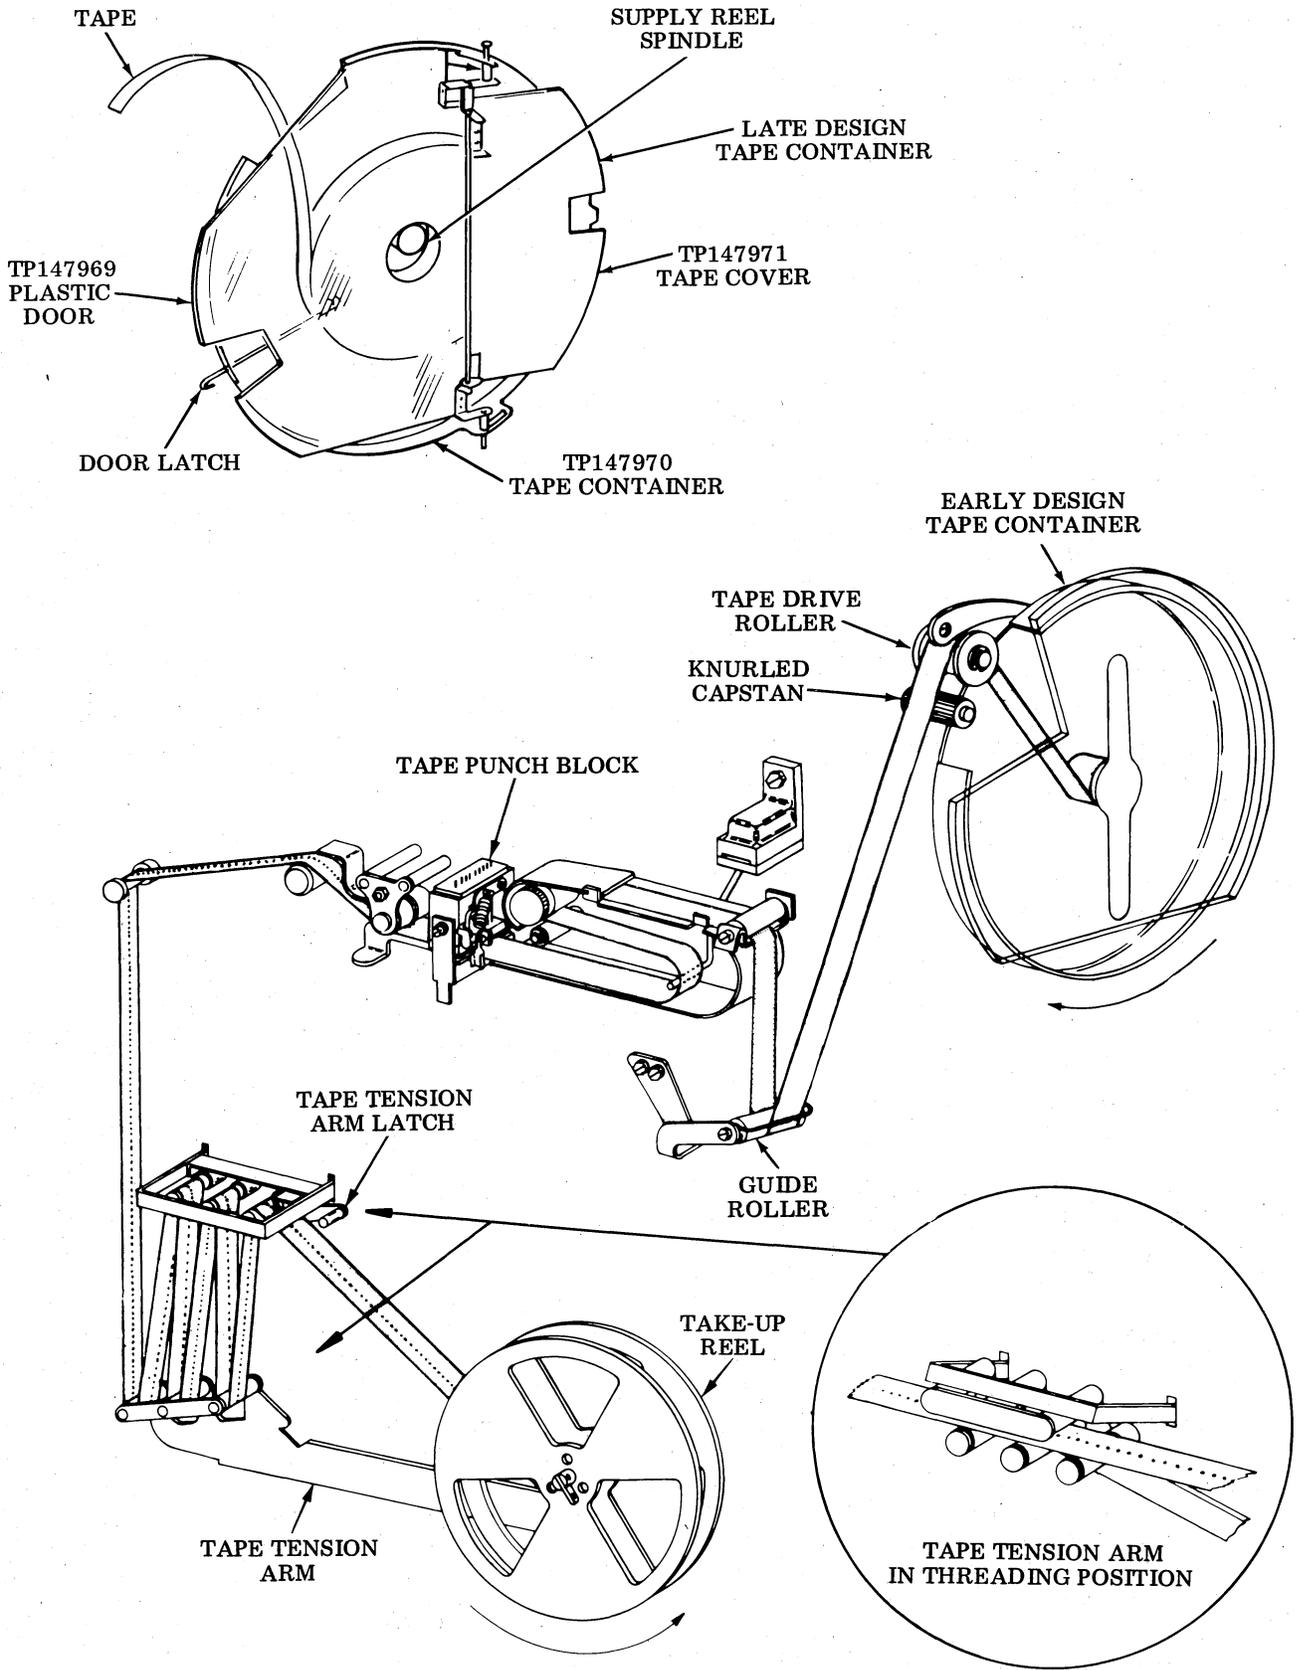

Figure 5 - Tape Path
- (1) Withdraw the punch mounting panel to gain access to the tape supply container.
- (2) Place the tape supply reel on the fixed supply reel spindle (Figure 5) so that it unwinds in a clockwise direction.
- (3) Check position of the tape container door for the proper tape roll width as shown in Adjustment Section 582-102-720.
- (4) Close the mounting panel and remove the transparent tape punch cover by lifting the cover slightly and pulling forward.
4.04 The tape take-up reel is driven by a motor and reduction gear assembly mounted on the rear of the drawer panel. A mercury switch on the tape tension arm (Figure 5) controls the take-up spool motor. As the tape punch operates it will introduce slack tape at the punch output, allowing the tape tension arm to drop. The mercury switch is adjusted to complete the motor operate circuit when the tape tension arm drops to a predetermined level. The take-up reel then rotates to take up slack and shuts off as the slack is taken up.